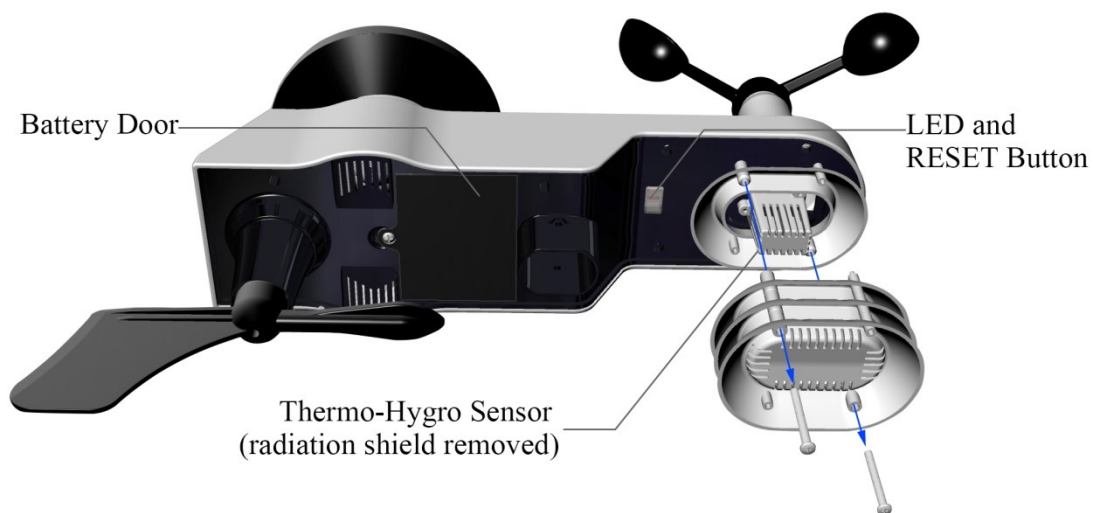

Figure 3
3.3.1 Insert batteries into the transmitter. Locate the battery door on the transmitter, push and open the battery compartment, as show in Figure 3.